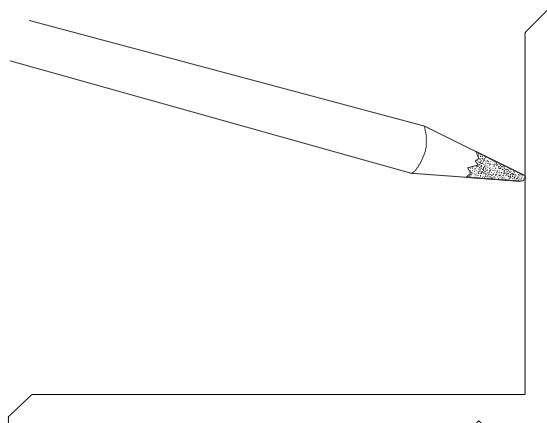

Figure 3
STEP 4. If the anchor holes have not been pre-drilled in the wall-mounted center plate at the factory, mark the locations for the anchor holes on the center plate (see Figure 3). Standard anchor spacing is 20" O.C. with an anchor at a nominal 3" from each end of the base member assembly. If necessary, drill the holes into the wall-mounted center plate at the marked locations. The wall-mounted center plate anchor holes are countersunk. Repeat this procedure for each section of the wall-mounted center plate.